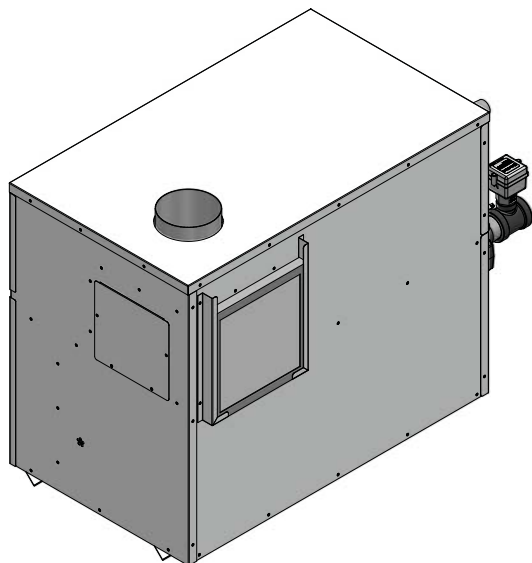

Figure 1-6 Metal Panel Covering Side Combustion Air Inlet
1. Remove the metal panel from the unit's side wall (see FIG. 1-6).